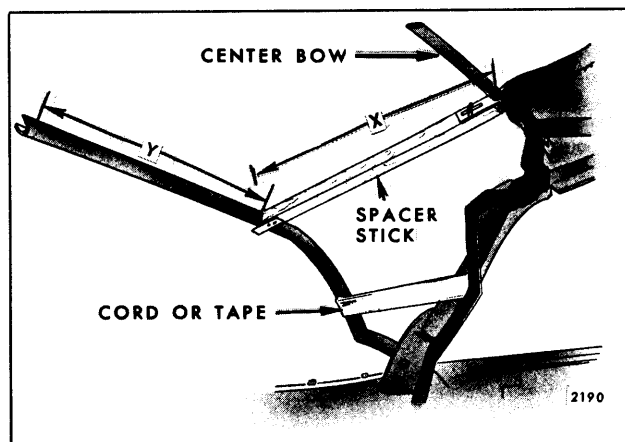
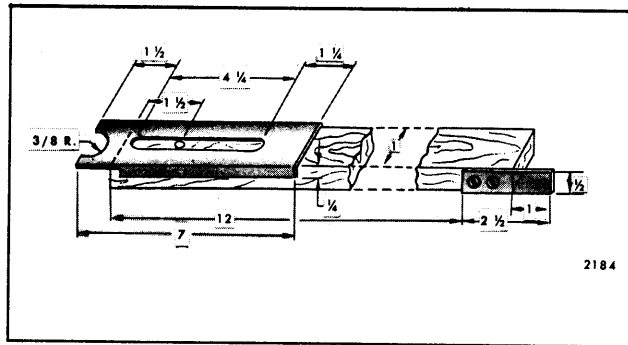
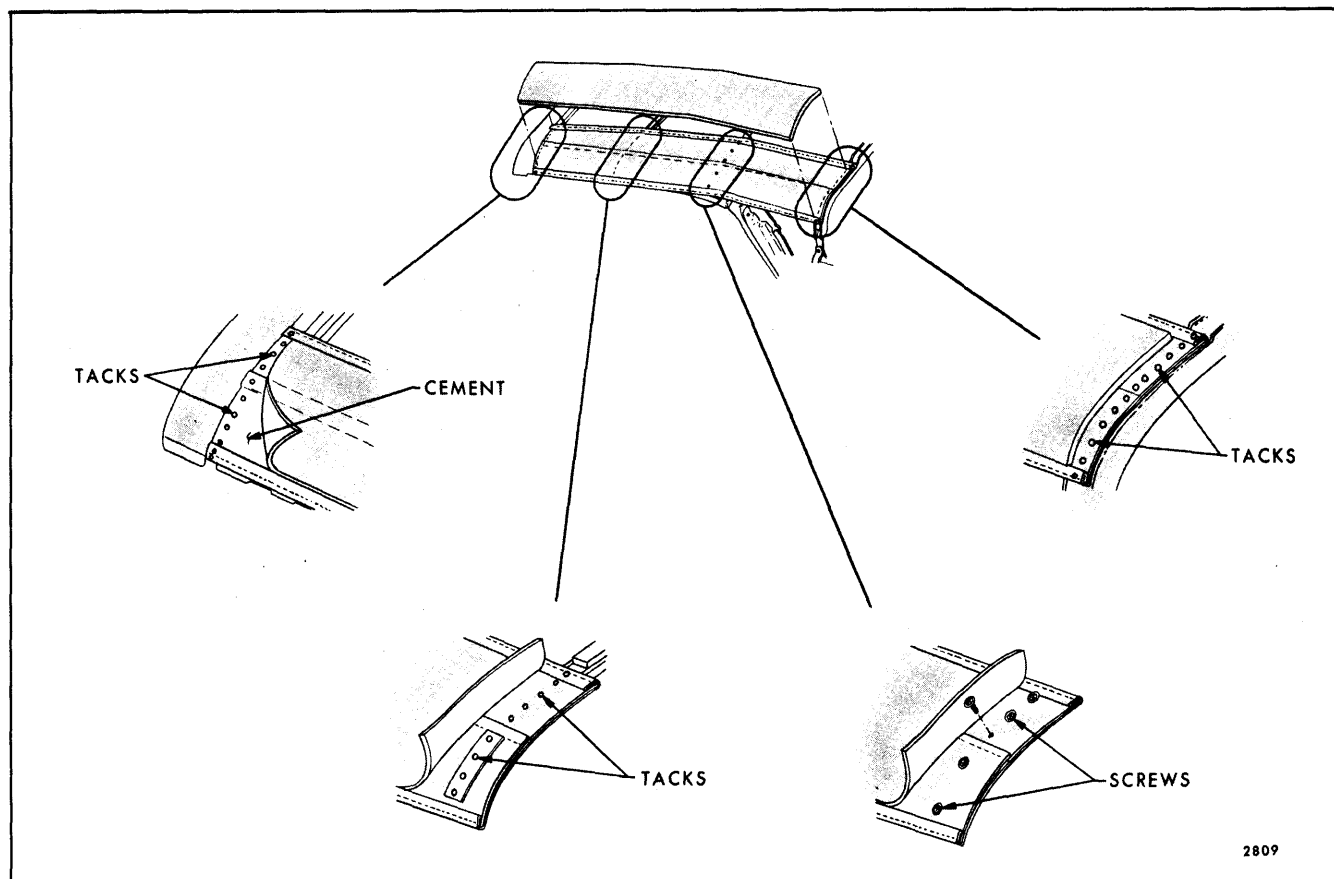

Fig. 13-41—Spacer Stick Installation
Fig. 13-42—Spacer Stick Fabrication
Fig. 13-52—Side Stay Pad Attachment
9. Lock top to windshield header and install spacer stick along inboard edge of each side stay pad (Fig. 13-41). Spacer sticks can be fabricated as shown in Figure 13-42. Fit spacer sticks snugly between center bow and rear bow, then tighten wing nuts. Spacer sticks are adjustable. Fasten rear bow securely to side roof rear rails.
1. With front roof rail locked at windshield head er, and with rear bow spacer sticks firmly in place (Fig. 13-41), check side stay pads. If necessary, align and secure side stay pads. See Step 1 of "Folding Top Cover and Back Curtain Assembly Installation" (Fig. 13-52).
pinchweld finishing molding during tacking operations. This will require assistance of a helper or a support. Trim excess back curtain material at rear bow. Also remove spacer sticks (Fig. 13-41).